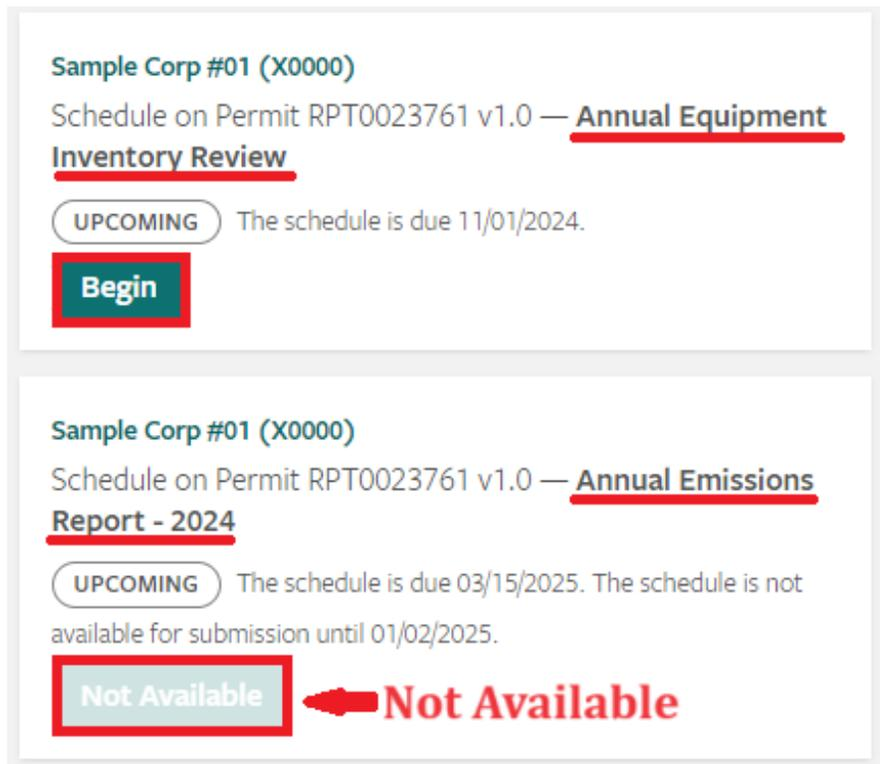

Figure 11-1 – Begin Button
- a) From the Dashboard screen, click **Begin** next to the Annual Equipment Inventory Review form on the right panel. See **Figure 11-1**.